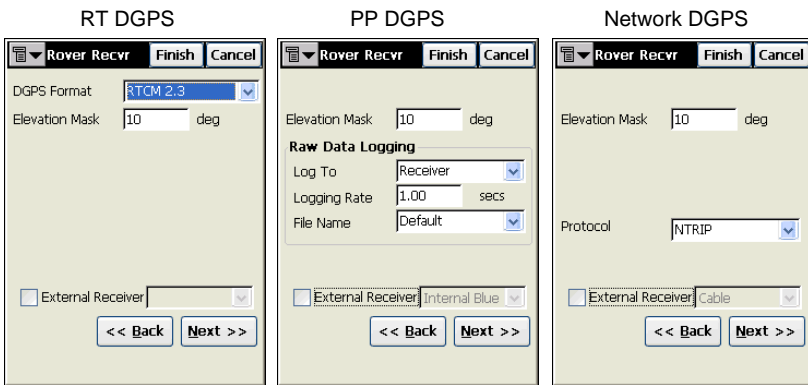

Figure 2-10. Configure the Rover Receiver – RT DGPS/PP DGPS/Network DGPS
8. On the **Rover Recvr** screen, select and enter the following parameters for the type of survey. If using an external receiver, select the field and the type. Press **Next** (Figure 2-10 on page 2-8).